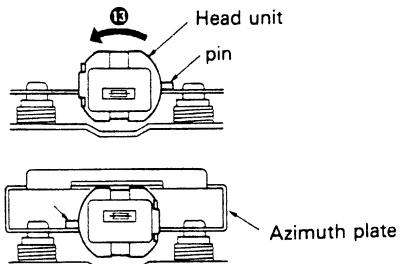

Fig. 37
7. Because the pin in the sector gear is in the notch in the slide plate at this time, the sector gear is in the notch in the slide plate in the direction indicated by arrow ⑫. Because the sector gear is meshed with the head unit gear, the head unit rotates half a revolution in the direction indicated by arrow ⑬. Figure 37 is view of this from tape side. When the head unit has rotated half a revolution, the catch on the head unit contacts the azimuth plate and pressure from the spring causes it to stop.